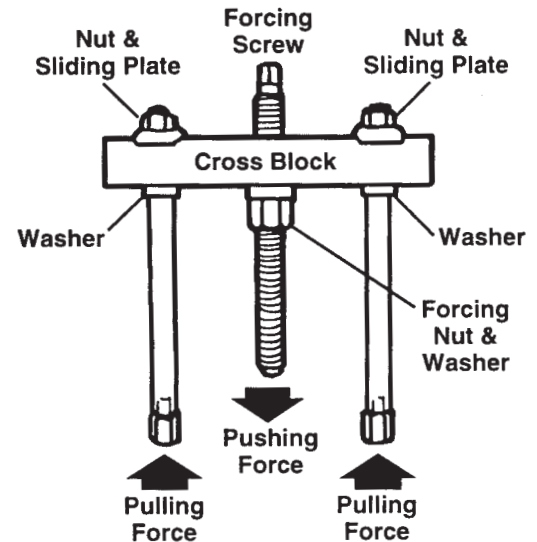

Figure 1
- a. Insert the forcing screw into the cross block with the forcing nut and washer assembled **below** the cross block. See Figure 1.
- b. Slide a leg assembly into each end of the cross block with the sliding plates and nuts assembled **above** the cross block and the washers assembled **below** the cross block. See Figure 1.